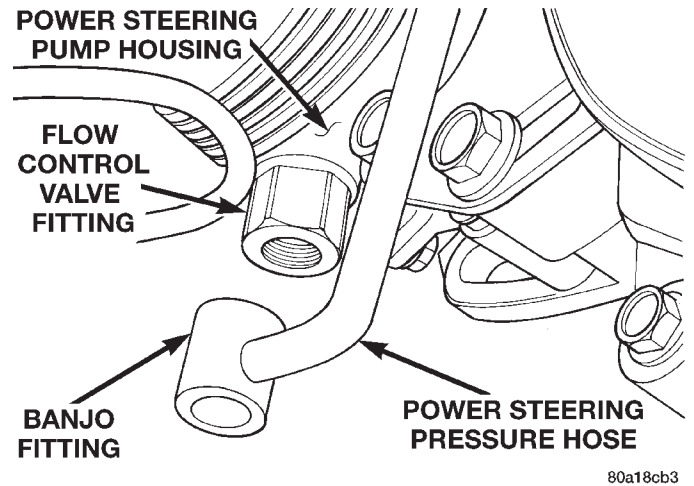

Fig. 6 Pump Discharge And Flow Control Valve Fitting
- (2) Remove the power steering pump discharge/flow control valve fitting (Fig. 6) from the power steering pump housing. **Use care to prevent the flow control valve and the spring from sliding out of the discharge/flow control valve fitting.**
- (3) Remove and discard O-ring seal from fitting.
- (1) If necessary, clean and install flow control valve and spring in pump housing bore.
- (2) Install new O-ring seal on fitting.
- (3) Install the discharge/flow control valve fitting (Fig. 6) into the power steering pump. Tighten the discharge/flow control valve to a torque of 75 N·m (55 ft. lbs.)